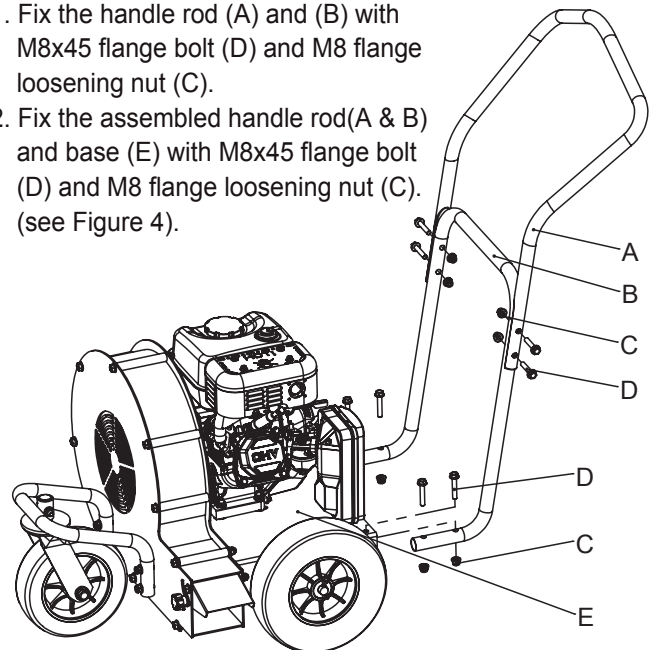

Figure 4
1. Fix the handle rod (A) and (B) with M8x45 flange bolt (D) and M8 flange loosening nut (C).
2. Fix the assembled handle rod (A & B) and base (E) with M8x45 flange bolt (D) and M8 flange loosening nut (C). (see Figure 4).